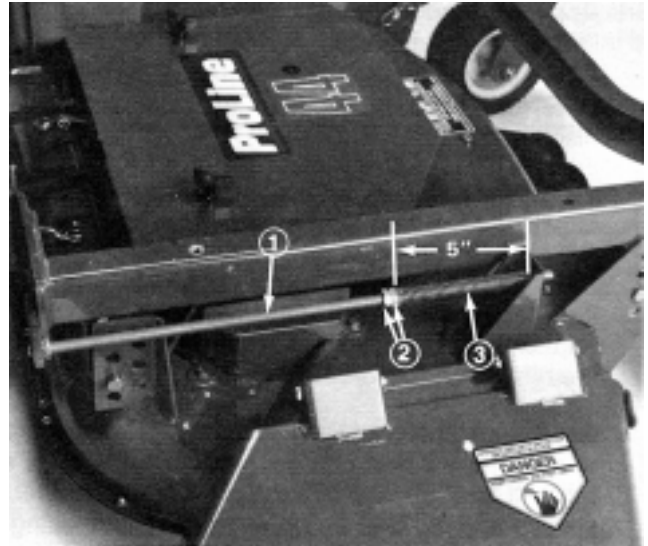

Figure 18
3. Loosen jam nuts on each adjusting shaft and remove engine to deck drive belt (Fig. 18).
6. Install belt to clutch and drive pulley (Fig. 18).